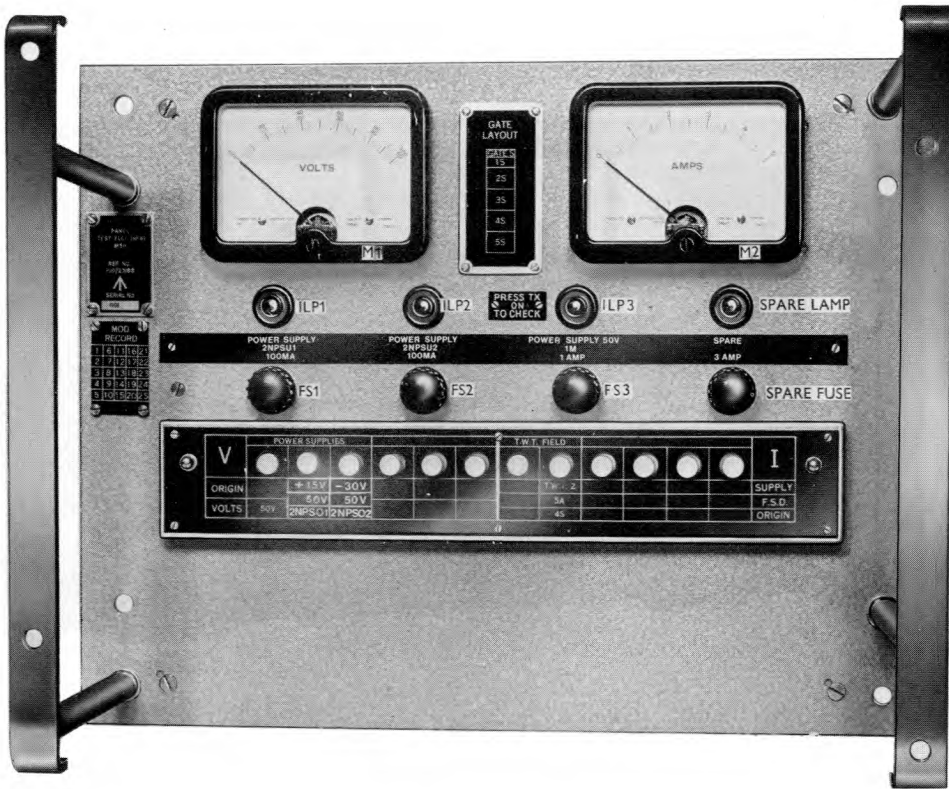

Fig.11. Panel test electrical (No.6) M58: (5840-99-999-9036) front view
30. This test (fig.11 and 12) is located inside the L.H. cabinet at position 2S. The panel dimensions are: height 12 in, length 9 in, width 15 3/8 in, and the weight is 10 1/2 lb. Twelve push-buttons mounted on the front of the panel select the various functions.